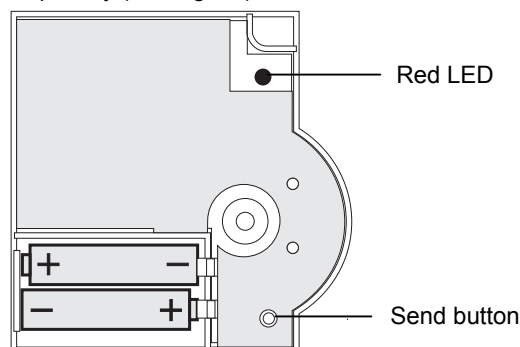

Fig. 10: Battery polarity and send button
- ▶ Insert the supplied AA batteries with the correct battery polarity (see Fig. 10).
- ▶ Insert the batteries with the right polarity into the battery compartment (see Fig. 10, Page 5).